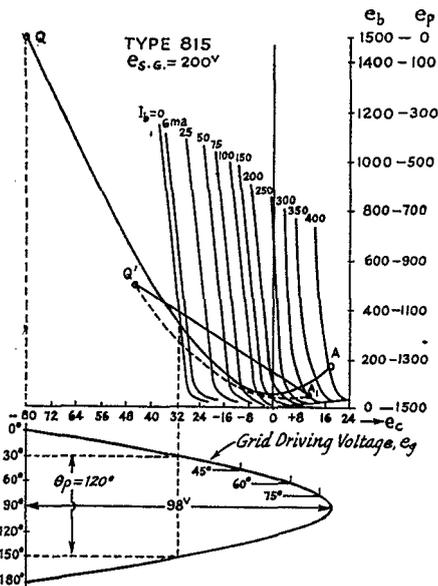

Fig. 1 — Constant-current characteristics and excitation-voltage curves for one section of a type 815.
In Fig. 1 such a chart is shown for the RCA type 815. Let us just disregard most of the lines on the chart and concentrate on the straight load line. This straight line is the conventional load line for a Class-C stage. At the Q point, E_c is -45 volts and E_b is 500 volts. This is the way we are supposed to set it up, according to the tube manuals. The grid swings up to +11 volts; the curves do not tell us what the minimum instantaneous plate voltage is, but we will assume it is 50 volts and thus fix point A₁. Under these conditions, the push-pull stage takes an input of 75 watts and puts out 56 watts.
short-lived. So we will use a power input of approximately $(10) (12.5) = 125$ watts. The family of curves shown in Fig. 1 is for only one of the two triode units in the tube; hence, the total power input to both units will be $(2) (125) = 250$ watts. Then $E_{bb} = 125/0.075 = 1667$ volts. We could use a power input of 250 watts in what follows, but 1667 volts is a peculiar value, so let us take 1500 volts and be satisfied with an input of 225 watts.